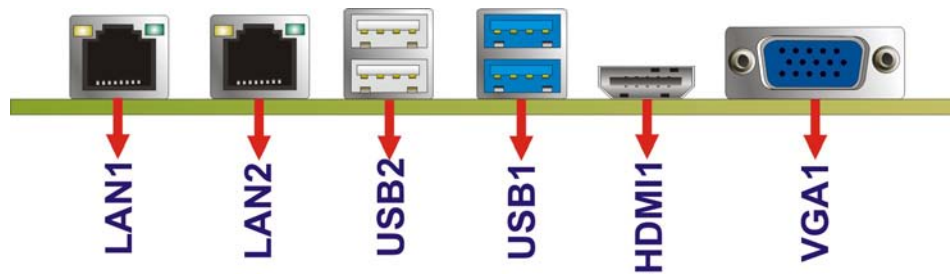

Figure 3-31: External Peripheral Interface Connector
Figure 3-31 shows the NANO-SE-i1 external peripheral interface connector (EPIC) panel. The EPIC panel consists of the following:
CN Location: See **Figure 3-31**
- CN Location:See **Figure 3-31**